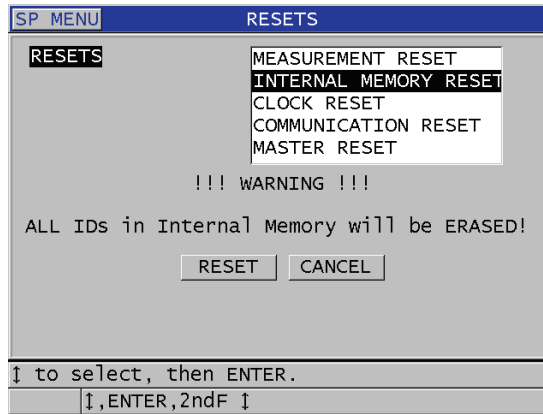

Figure 11-22 Warning message when resetting measurements
3. In the **RESETS** screen (see Figure 11-22 on page 183):